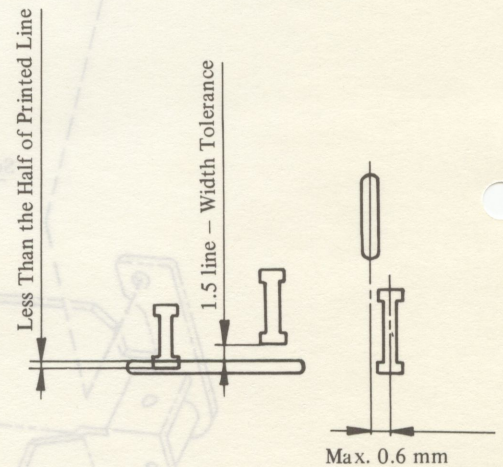

Fig. 20-3
(3) The lengthwise scale line on the paper meter should be within the specified range (print character "I" to check). To adjust loosen the paper meter mounting screws and properly position the paper meter. (Fig. 20-3)